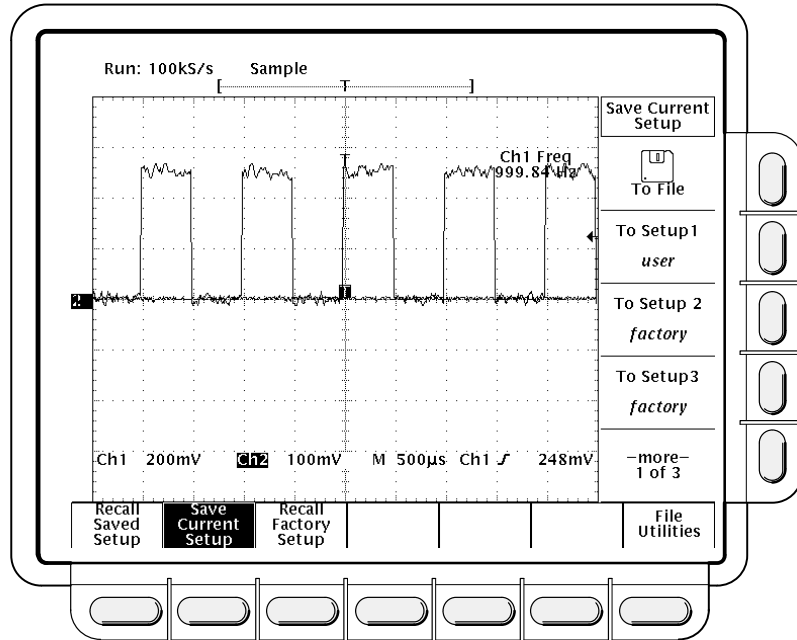

Figure 1-20: Save/Recall Setup Menu
6. Press **SETUP** → **Save Current Setup** (main) to display the Setup main menu (see Figure 1-20).